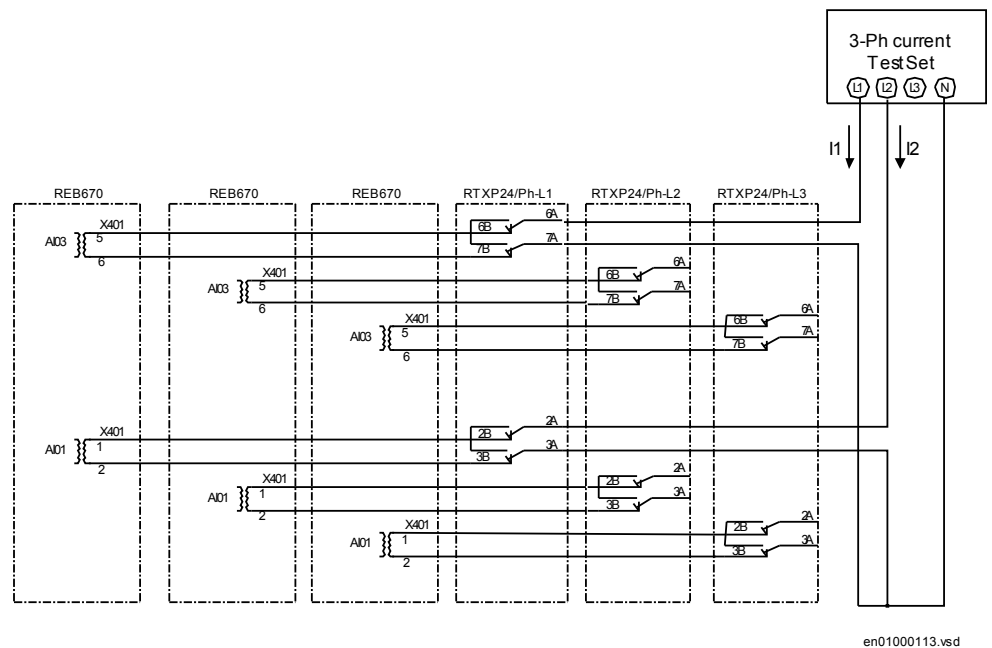

Figure 50: Typical test connection for CT3 and CT1 current input phase L1 when COMBITEST RTXP 24 test switch is delivered together with the one-phase IED
1. Connect the currents I1 and I2 from the three-phase test set to the current terminals of CT1 and CT_x inputs of the IED as shown in figure 50.
For open CT test two current inputs shall always be used. The typical connection between the three-phase current test set and the IED for this type of tests is shown in figure 50.
1. Connect the currents I_1 and I_2 from the three-phase test set test set to the current terminals of CT1 and CT3 inputs of the IED as shown in figure 50.
For open CT test two current inputs shall be always used. The typical connection between the three-phase current test set and the IED for this type of tests is shown in figure 50.
1. Connect the currents I1 and I2 from the three-phase test set to the current terminals of CT1 and CT3 inputs of the IED as shown in figure 50.